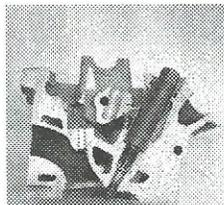
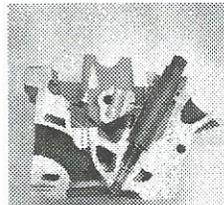
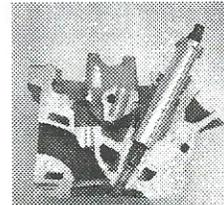
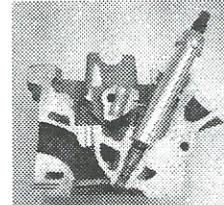

Fig. 3
Fig. 4
Fig. 5
Fig. 6
8. Insert Pusher Body (2) to bottom of spark plug threads with Pusher Screw (3) backed completely out. Fig. 3. Next screw Pusher Screw (3) down until it bottoms out against top of Pusher Body (2). Fig. 4. This pushes the porcelain to the end of the spark plug tube tip which gives you enough room for tip of Puller Screw to work. There is no guessing on how far to run the Pusher Screw down. The porcelain cannot be pushed through the spark plug tip since it is retained by the taper of the tip and the design of the tool controls the overall length the porcelain can be pushed.
10. Place Puller Housing into hole (4).
11. Slide in Puller Screw (5).
12. Turn Puller Screw (5) counterclockwise (left hand thread) until tight. Fig. 5. Make sure to engage as many threads as possible. It will turn hard. If there are not enough threads on the Puller Screw engaged, the tip can break off and remain in the spark plug tip.
13. Put Nylon Gasket and Left Hand Hex Nut on Puller Screw (5). Tighten against Housing.
14. Turn Nut counterclockwise to pull plug from hole. Fig. 6.